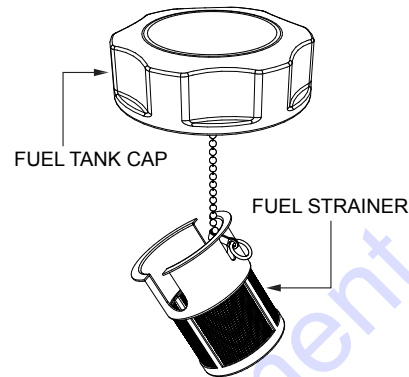

Figure 59. Fuel Strainer
- Remove, inspect, and clean the fuel strainer (Figure 59) with solvent.